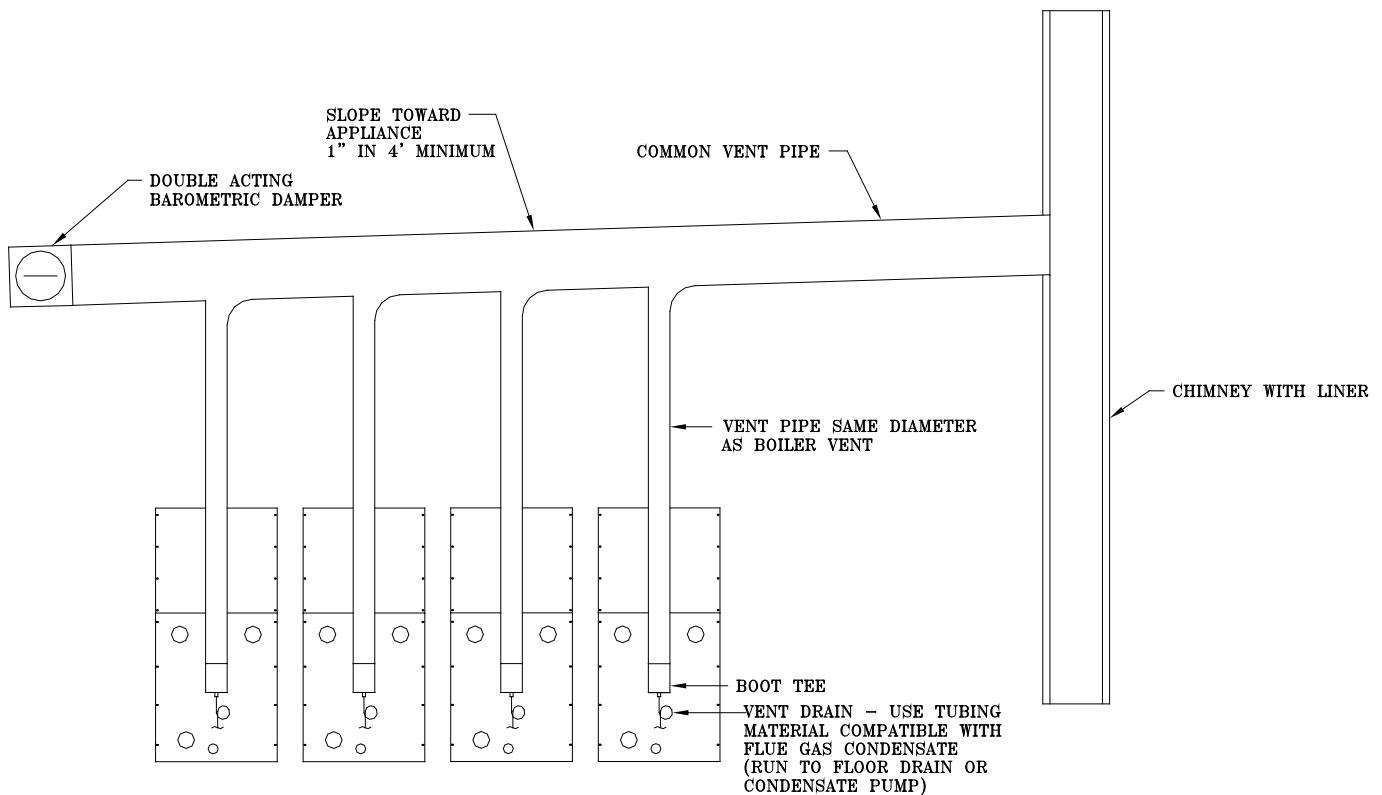

Figure 11: Modular System: Conventional Venting (negative draft)
- iii. Positive pressure systems can be piped individually through a common vertical chase so that a single roof penetration can be made. Each vent termination must be one (1) foot from all other terminations.
- i. Refer to Figure 11 for an example of a typical conventional venting arrangement for modular boilers.
- iii. Install a double acting barometric damper with integral flue spillage interlock (as shown in Figure 11).
- vi. Install a condensate drain to collect any condensate that may form in the lined chimney or vertical common vent (refer to Figure 11).